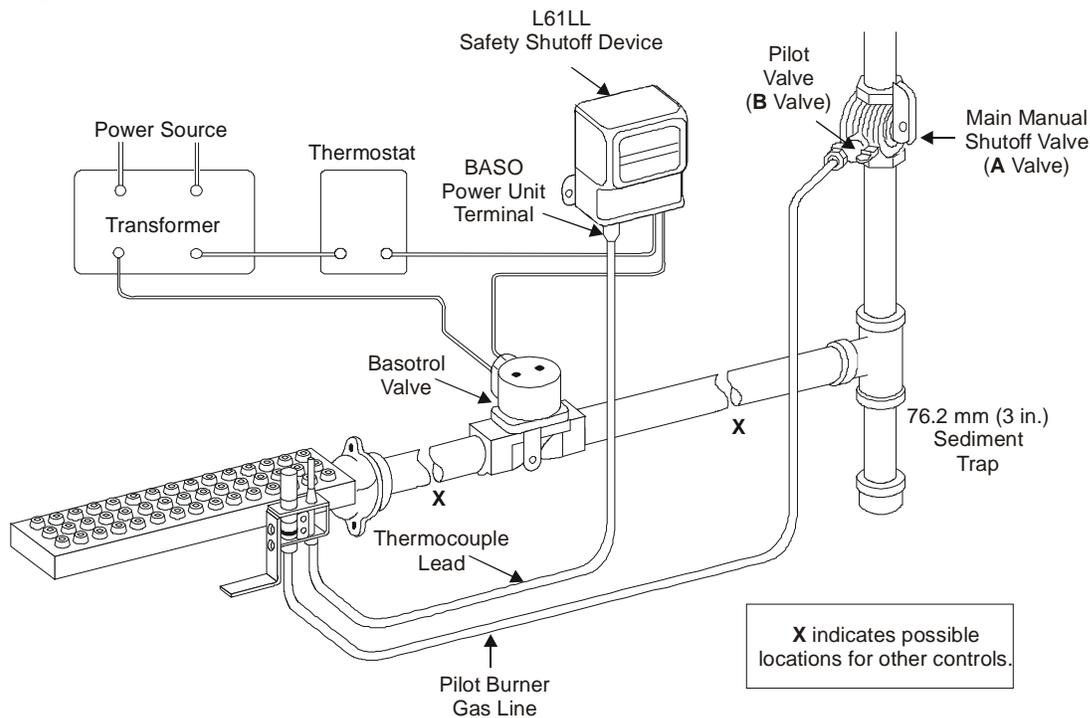

Figure 2: Typical L61LL Installation
4. Close the main manual shutoff valve (**A** valve) and the pilot valve (**B** valve [see Figure 2]) and wait at least five minutes for unburned gas to escape from the appliance.